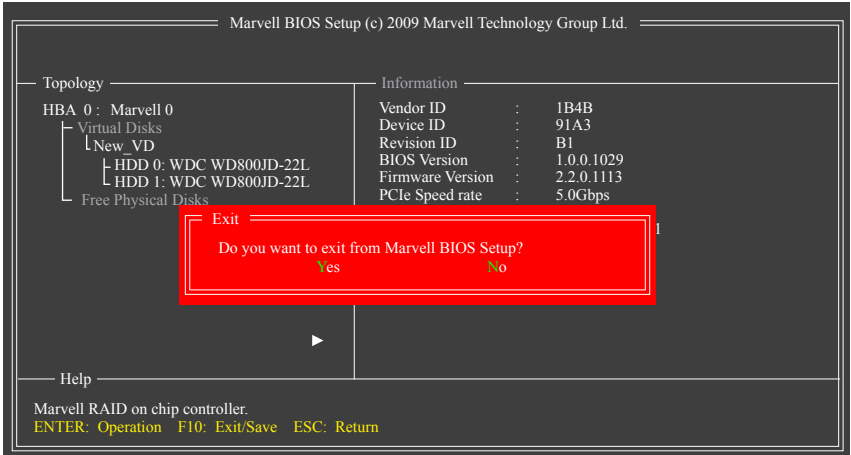

Figure 7
5. Save the Settings and Exit. After you complete the RAID configuration and before you exit the configuration screen, be sure to press <F10> in the main screen. Press <Y> to confirm or <N> to cancel (Figure 7).